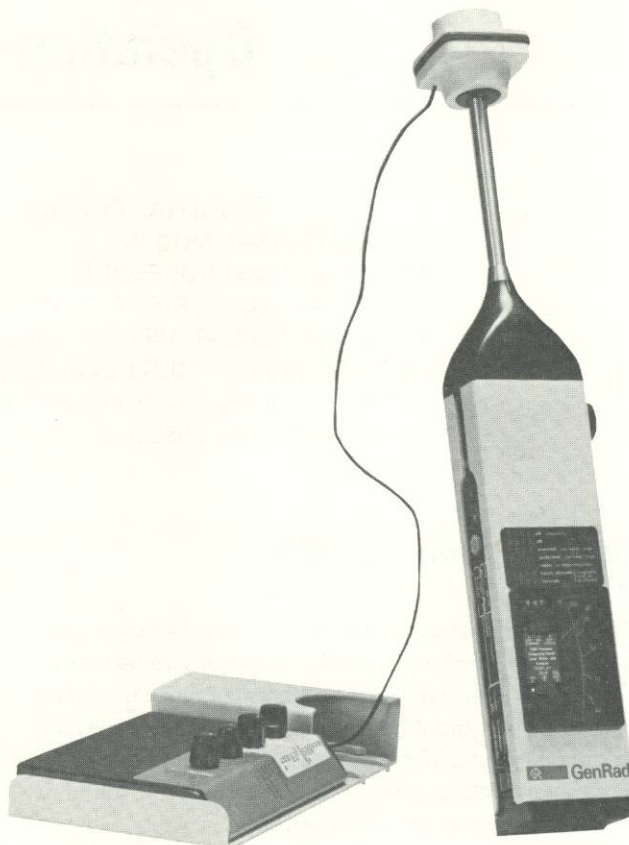

Figure 3-1. Set-up for calibration of the 1988 with the 1986.
h. Remove the protective microphone cover from the 1988, and carefully place the calibrator's cavity over the 1988 microphone (see Figure 3-1).